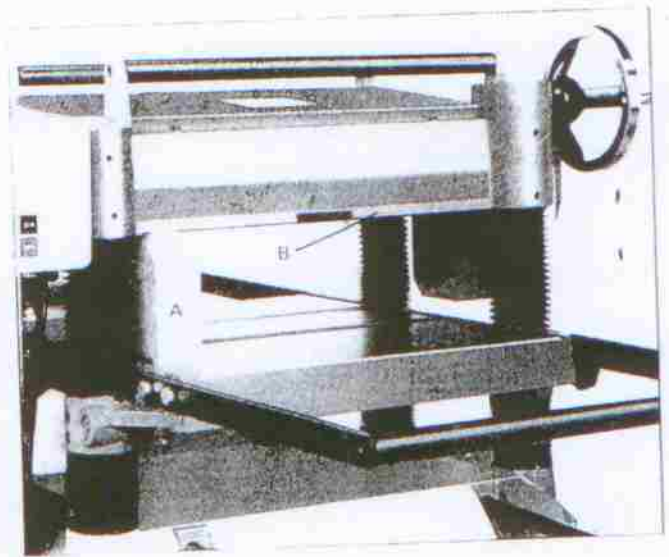

Fig 23
2. Place the gage block (A) Fig. 23 on the working table directly under front edge of head casting (B), make slight contact by gently raising table as shown in Fig. 23.